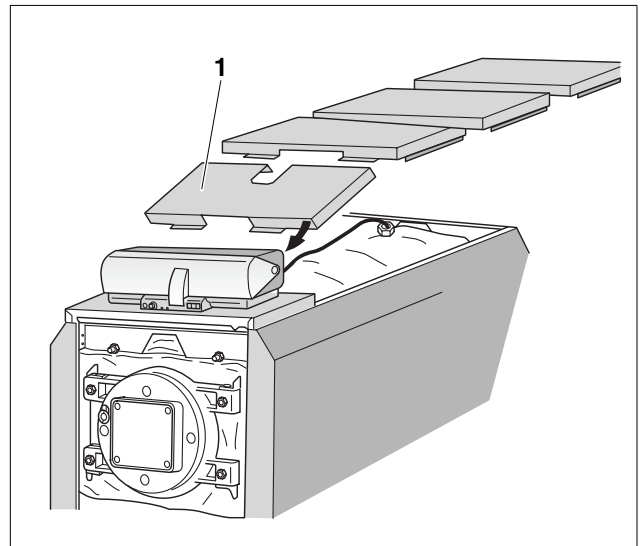

Fig. 20 Placement of top cover panels
The second top cover panel has, starting with model /400, a cut-out (Fig. 20, **Item. 1**). The other top cover panels are the same and are to be oriented with the edge forward.
- Place top cover panels loose on top of the right and left hand side panels (Fig. 20).